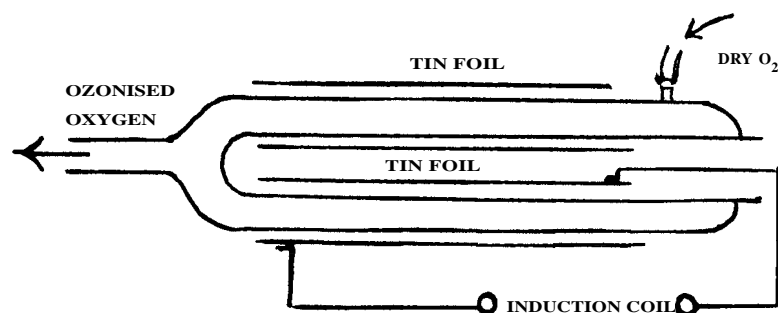

Fig. 8.2 Siemen's ozoniser
- (i) **Siemen's ozoniser :** The apparatus is made up of two co-axial glass tubes fused with each other at one end as shown in the Fig 8.2. The inside of the inner tube and the outside of the outer tube are covered with tin foils.